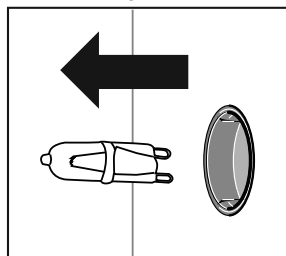

Figure 7
3. Pull out the bulb from its position and replace the bulb with a new one of the same type. (Figure 7)